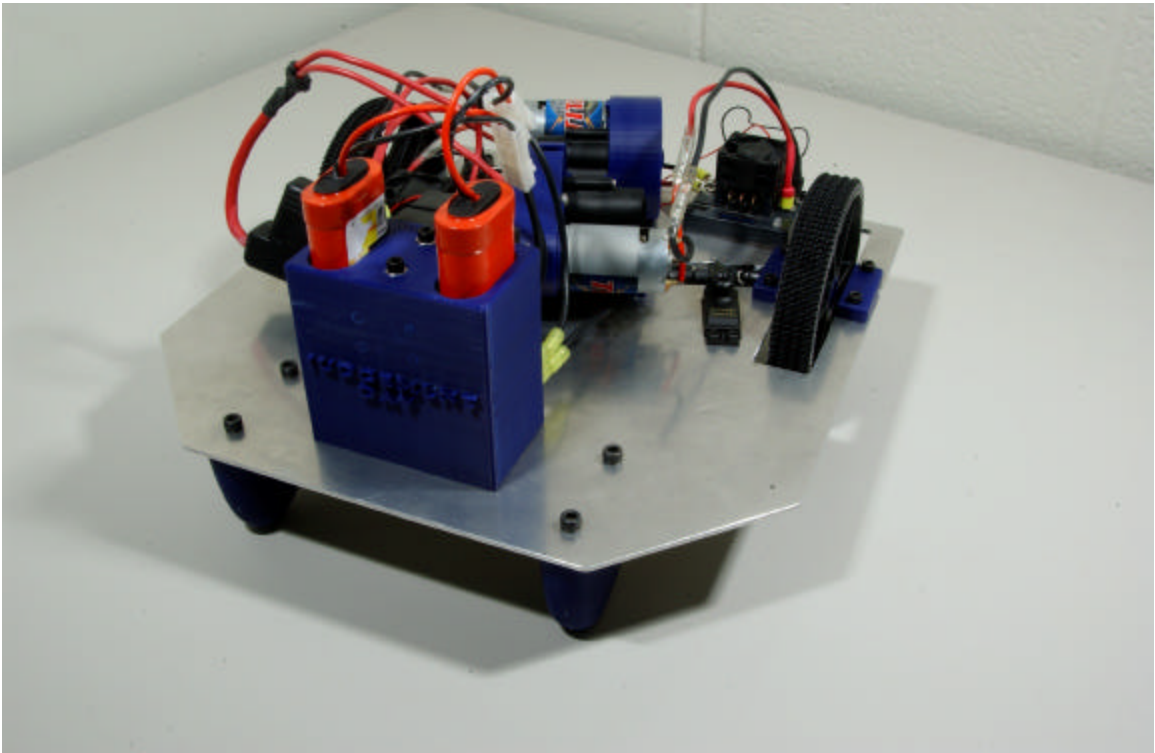
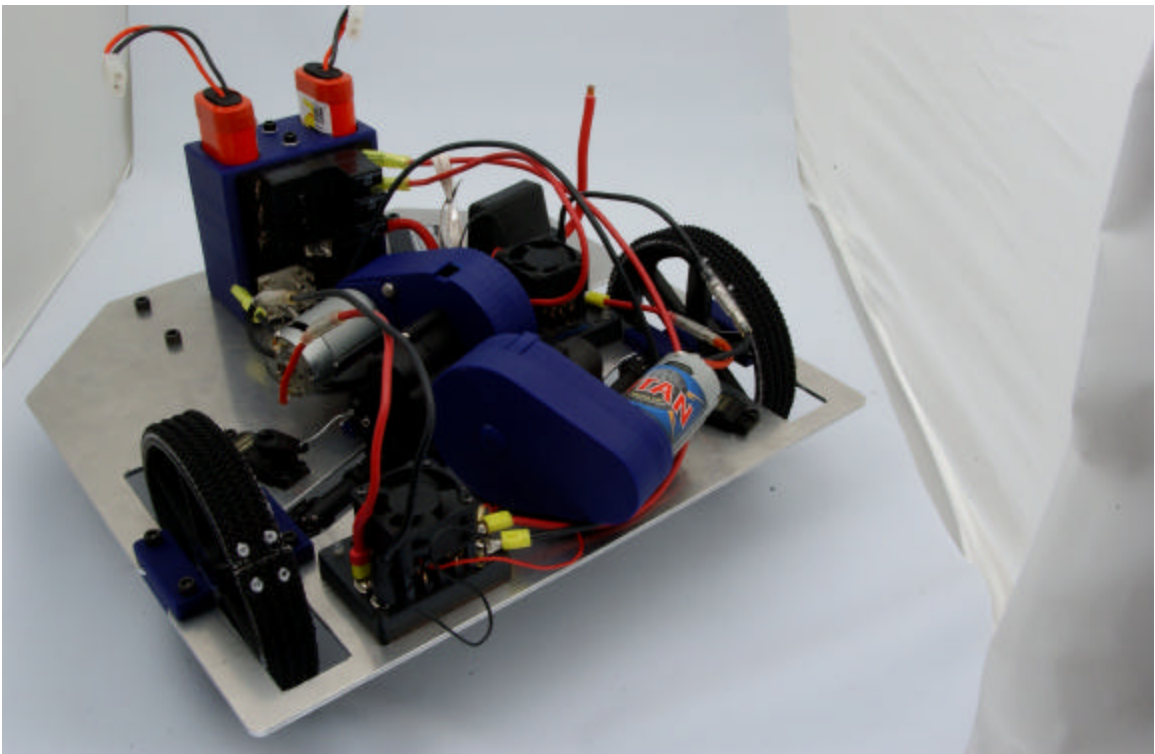

Fig 8.1.1
Fig 8.1.2
- Wheeled (Fig 8.1.1) and (Fig 8.1.2)